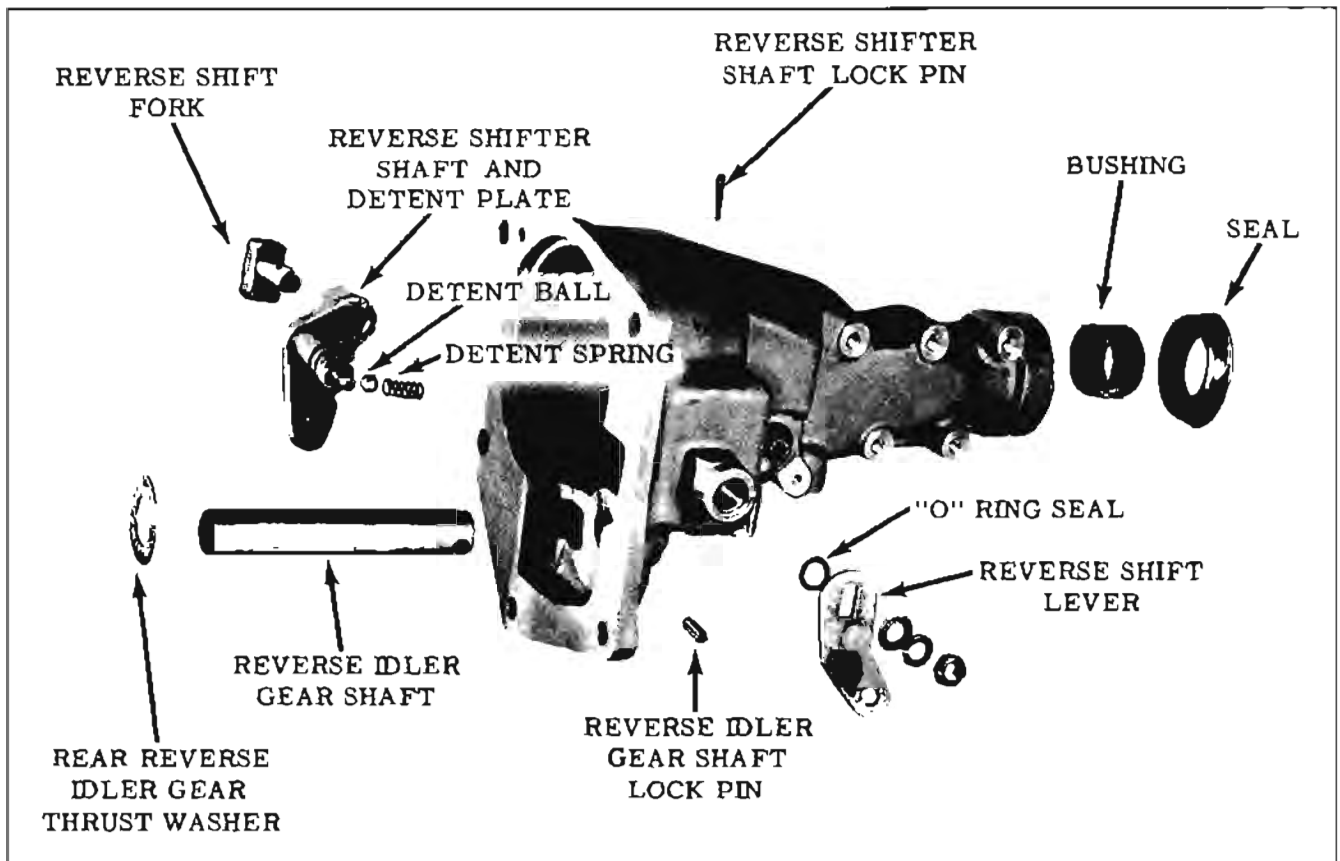

Fig. 11-251 Extension Housing Disassembly
2. Remove the reverse shift fork from the detent plate. (Fig. 11-251)
3. Carefully drive the shift shaft into the extension housing, allowing the detent ball to drop into the housing. (Fig. 11-251)
4. Remove the shift shaft assembly and the detent spring. (Fig. 11-251)